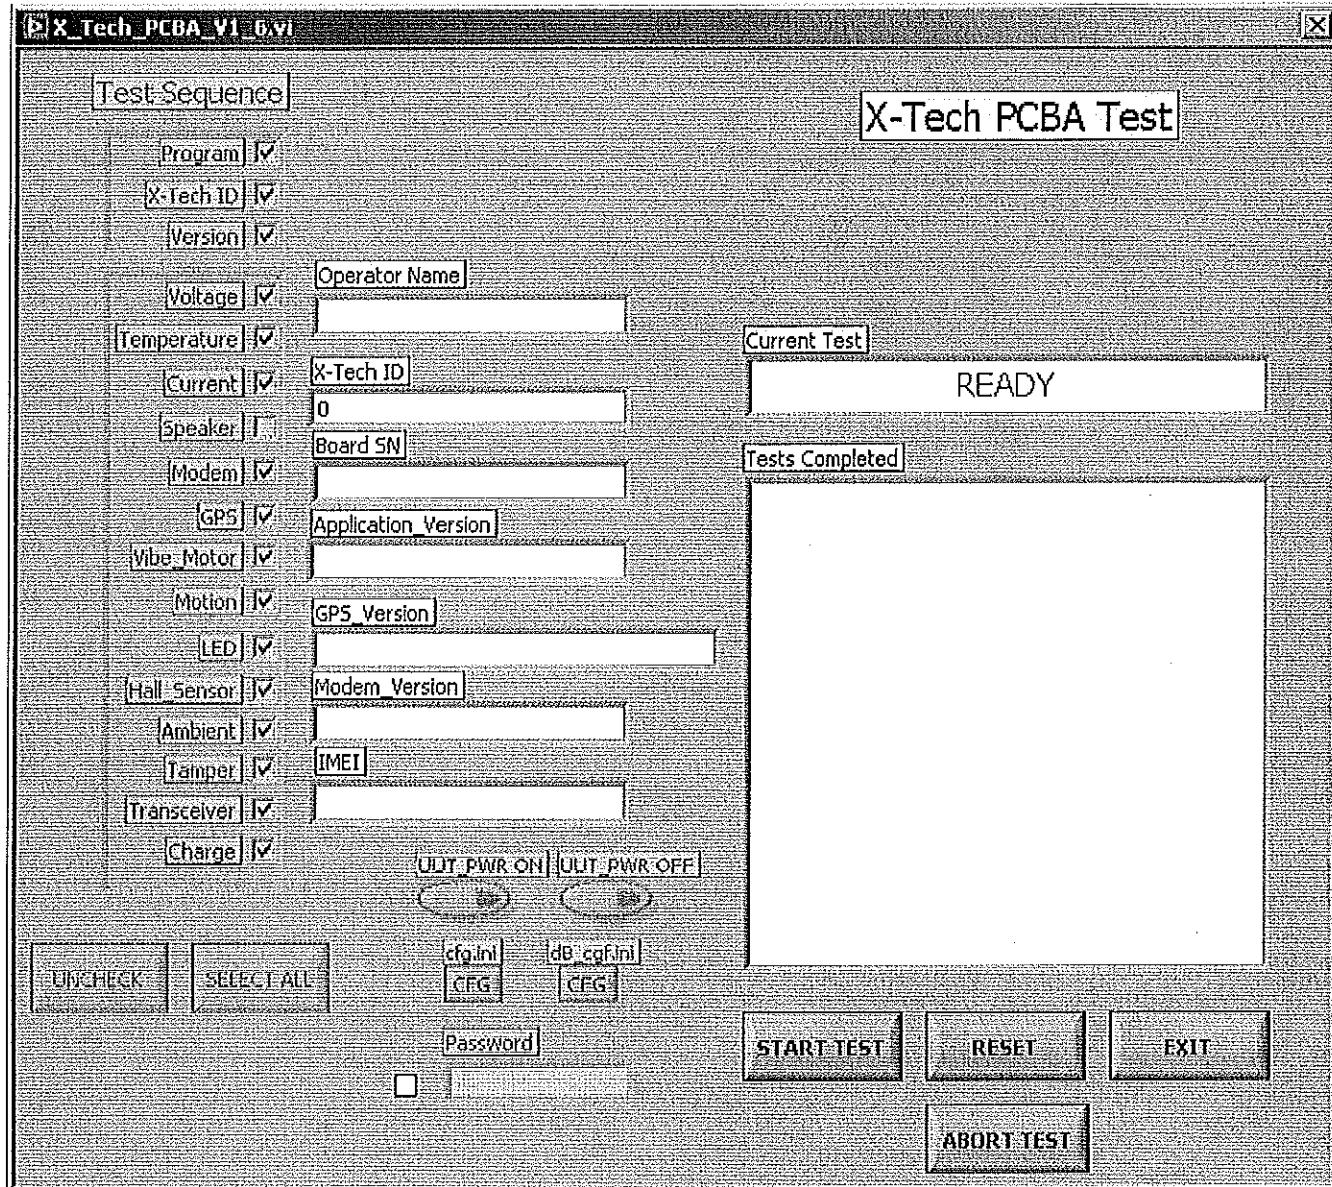

Figure 1 –PCBA Test Main Test Window.
1. Open the “X\_Tech\_PCBA\_VX.vi” software (Figure 1).